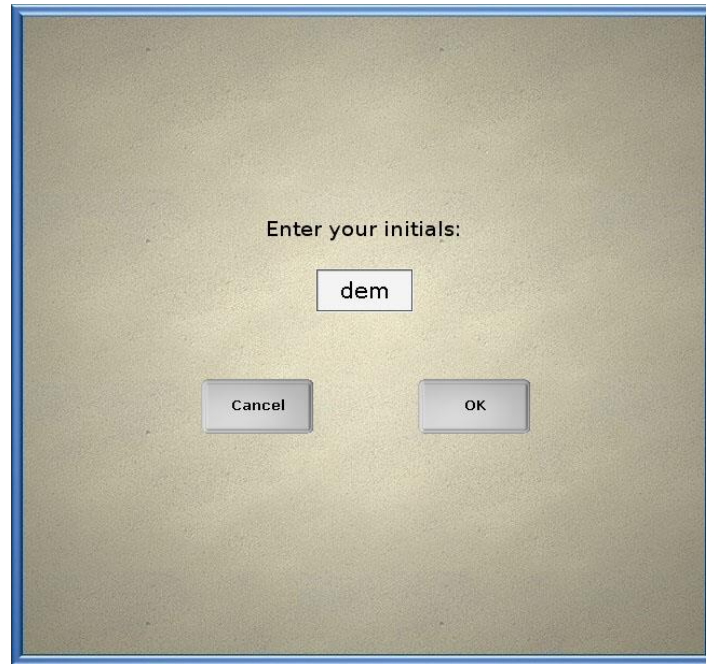

Figure 3-7. Notes Dialog Box
1. Press the **Notes** button. The Notes dialog box appears (Figure 3-7).